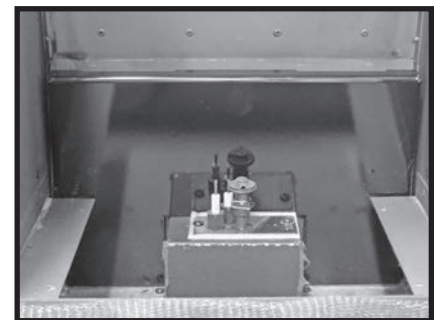

Figure 25: Lower back panel.
4. Remove the lower back panel by lifting it off of the pilot ledge and pull it out of stove (Figure 25).
1. Insert lower back panel so that it is sitting on the ledge at the back of the firebox (Figure 25).